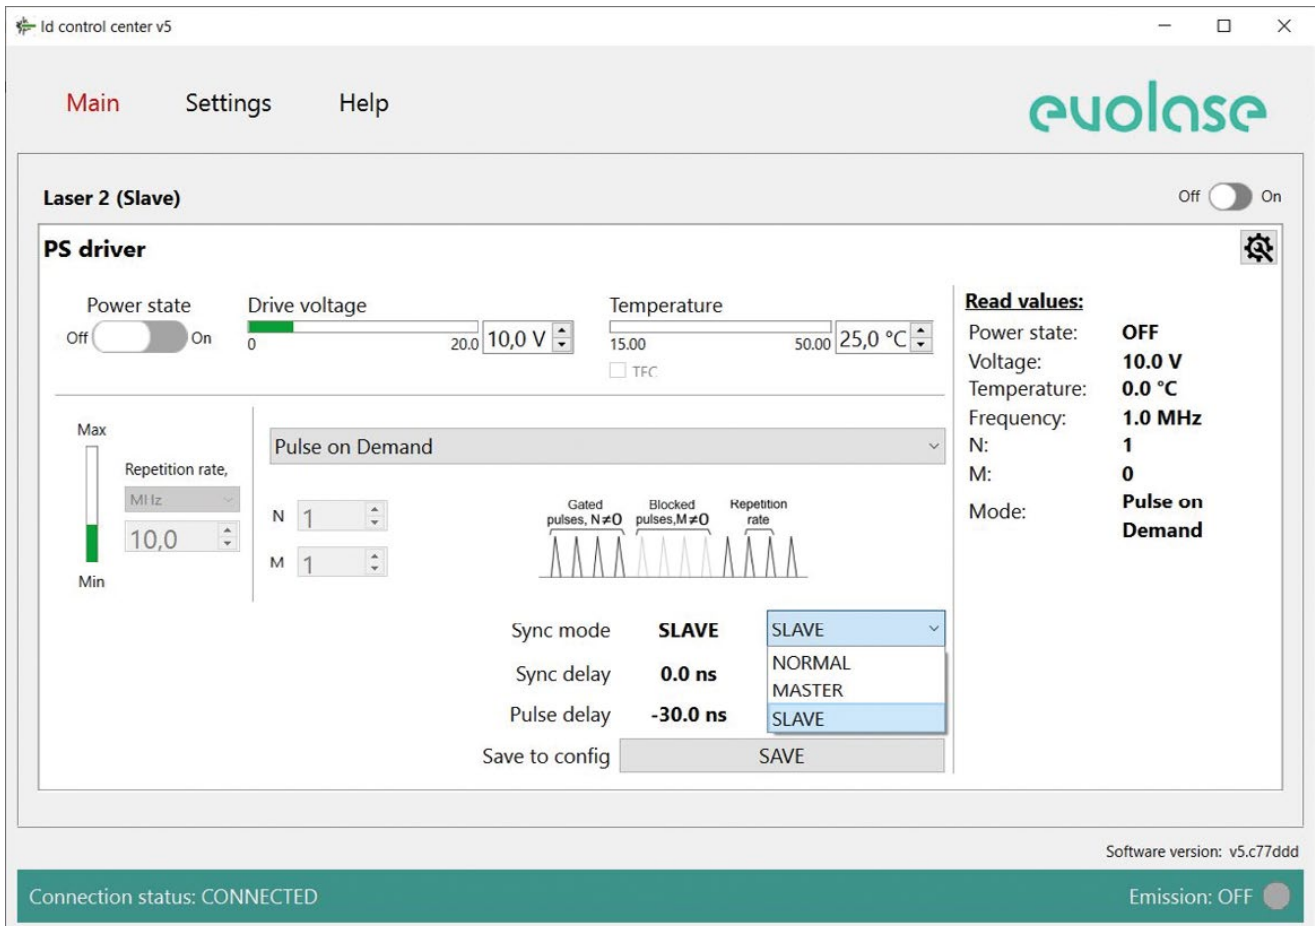

Figure 7: Sync mode slave driver
7. In the control program of the slave driver select Sync mode SLAVE (fig.7), and confirm the selection in the confirmation window that appears.